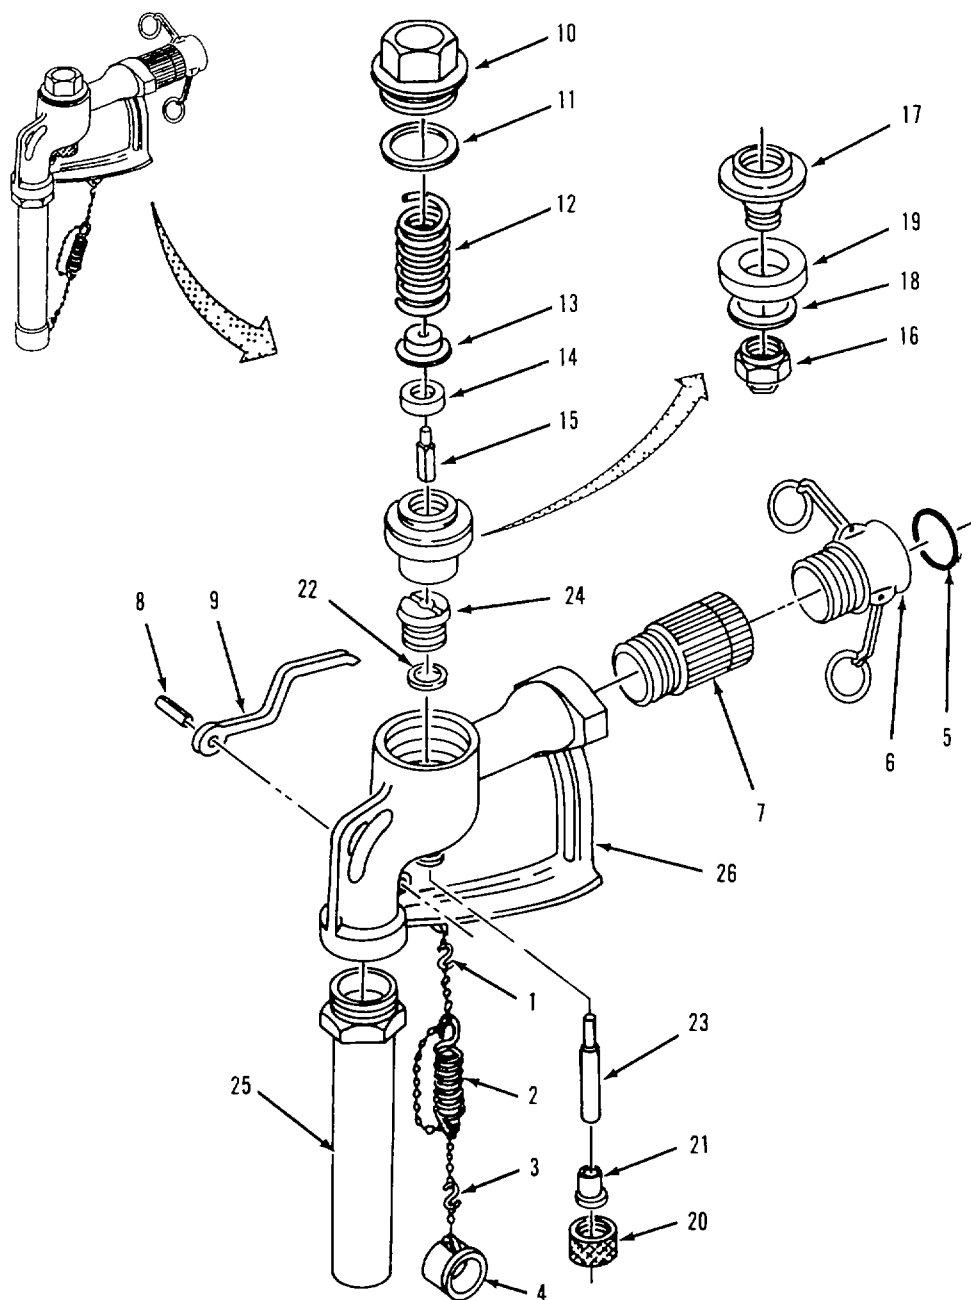

Figure 4-4. Distribution Nozzle (1-1/2 Inch) Disassembly.
a. Disassembly. Refer to figure 4-4.
- (1) Disconnect S-hook (1) from body (26).
- (2) Remove S-hook (1) from chain and spring (2).
- (3) Remove tube cap (4) and S-hook (3) from chain and spring (2) Disconnect S-hook from tube cap.
- (4) Remove gasket (5) from female coupling (6).
- (5) Remove swivel (7) and female coupling (6) from body (26).
- (6) Unscrew female coupling (6) from swivel (7).
- (7) Drive out groove pin (8) and remove handle (9) from body (26).